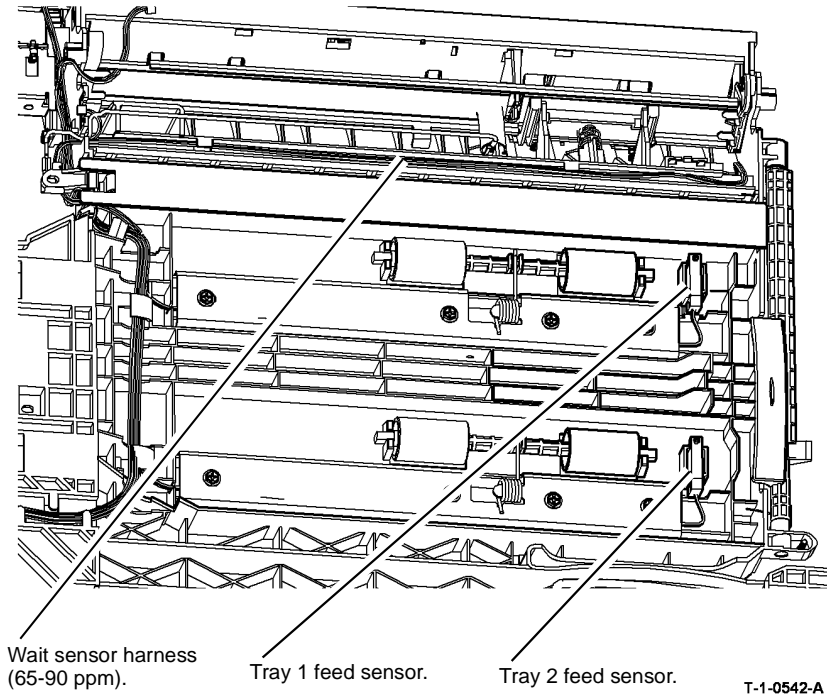

Figure 3 Feed sensor locations
4. Figure 3 shows the location of tray 1 and tray 2 feed sensors.
2. **(65-90 ppm Only)** Before refitting the left hand door cover, ensure that the wait sensor harness is correctly located. Refer to Figure 3.